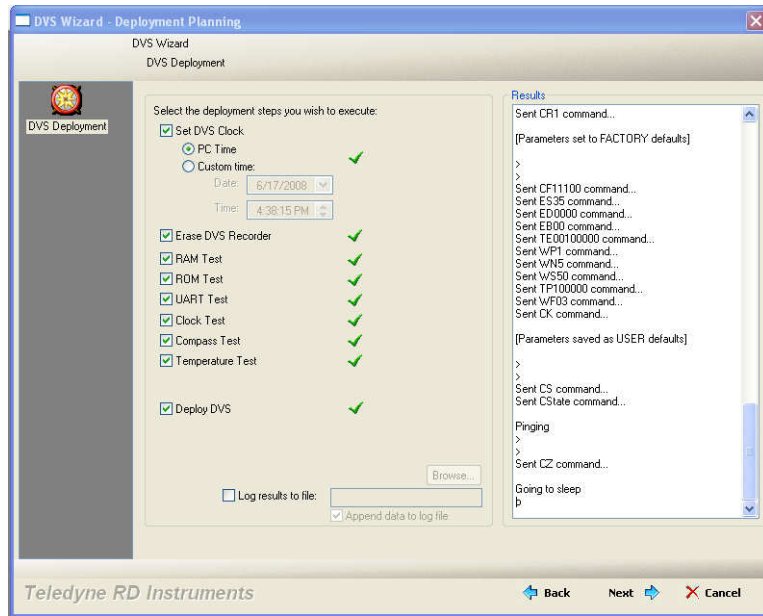

Figure 13. DVS Wizard – Deployment
- o. Any step beyond this point requires communication with a DVS system. If a DVS is not available, you can save this configuration for later use by unchecking the **Continue to deployment** check box and clicking **Next**. Otherwise, you will be prompted to save the deployment file generated here, and will proceed to configuring the DVS for deployment (see DVS Deployments and Figure 13).